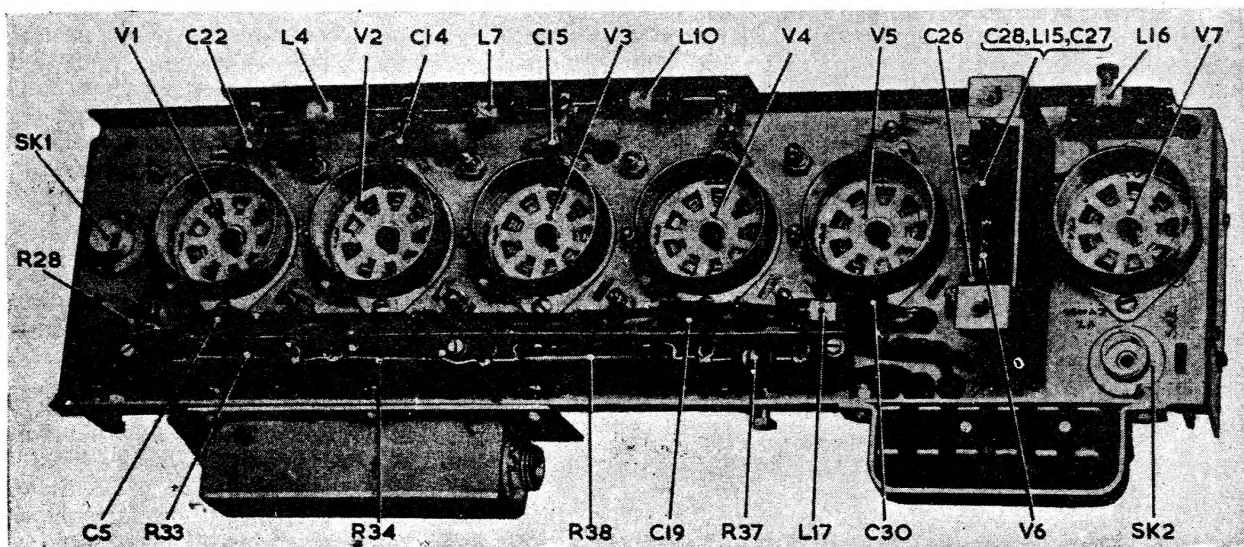

Fig. 1. Receiving unit Type 215 — plan view
3. The output from the IAGC circuits is taken to the grid of V1 via an R/F filter, which prevents feedback of IF from the IF strip to the main chassis. Views of the strip are shown in fig. 1, 2 and 3. Fig. 4 is a circuit diagram.